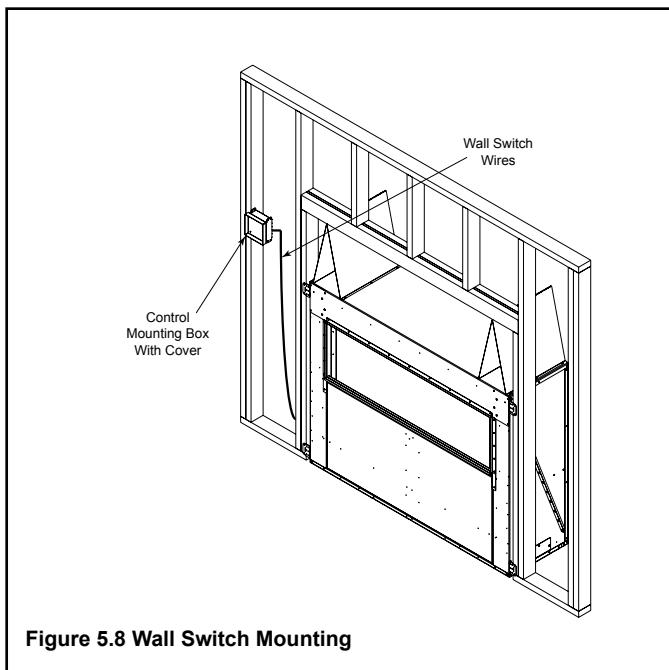

Figure 5.8 Wall Switch Mounting
- Remove (2) screws securing wall switch control assembly, to standoff.
- Install mounting box in the desired location prior to finishing materials being installed. See Figure 5.8.